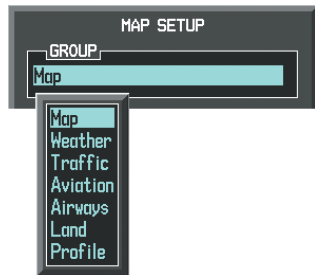

Figure 6-80 Navigation Map Page Setup Menu
- 4) Turn the small **FMS** Knob to select the 'Map' Group and press the **ENT** Key (Figure 6-80).